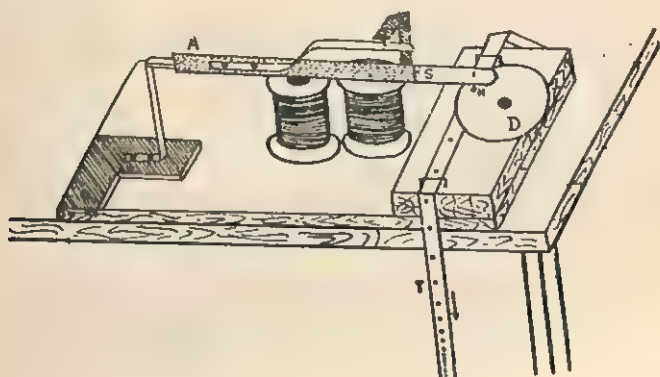

Fig. 8.6. Ticker-tape vibrator made from an electric bell.
- (iii) Extend the armature  $A$  by soldering to it a strip of metal  $S$  about 5 cm. long as shown in Fig. 8.6.
(iv) Drill a hole at the vibrating end of the strip  $S$  to fit a small rounded head screw  $H$ . Fix the screw with the head  $H$  downwards to act as a marking hammer (Fig. 8.6).
(v) Fix this modified arrangement of the electric bell on a piece of wood which serves as a base as shown in Fig. 8.6.
(vii) This assembly of the carbon disc is fixed on the base plate as shown in Fig. 8.6.